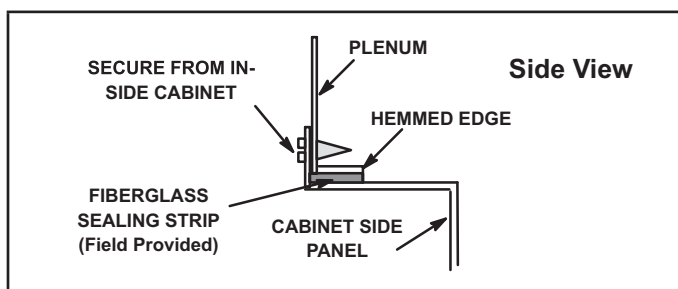

Figure 10
- 4 - In closet installations, it may be impossible to install sheet metal screws from the outside. In this case, make plenum with a removable front and install screws from the inside (See Figure 10).